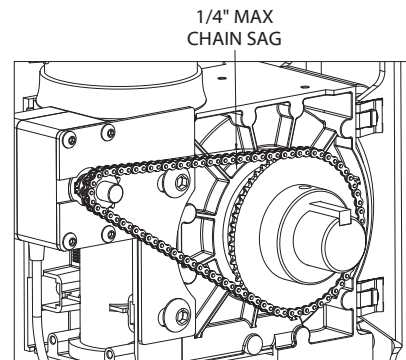

FIG 9-B
- Check chain tension, max sag is 1/2"; **Fig. 9-B.**